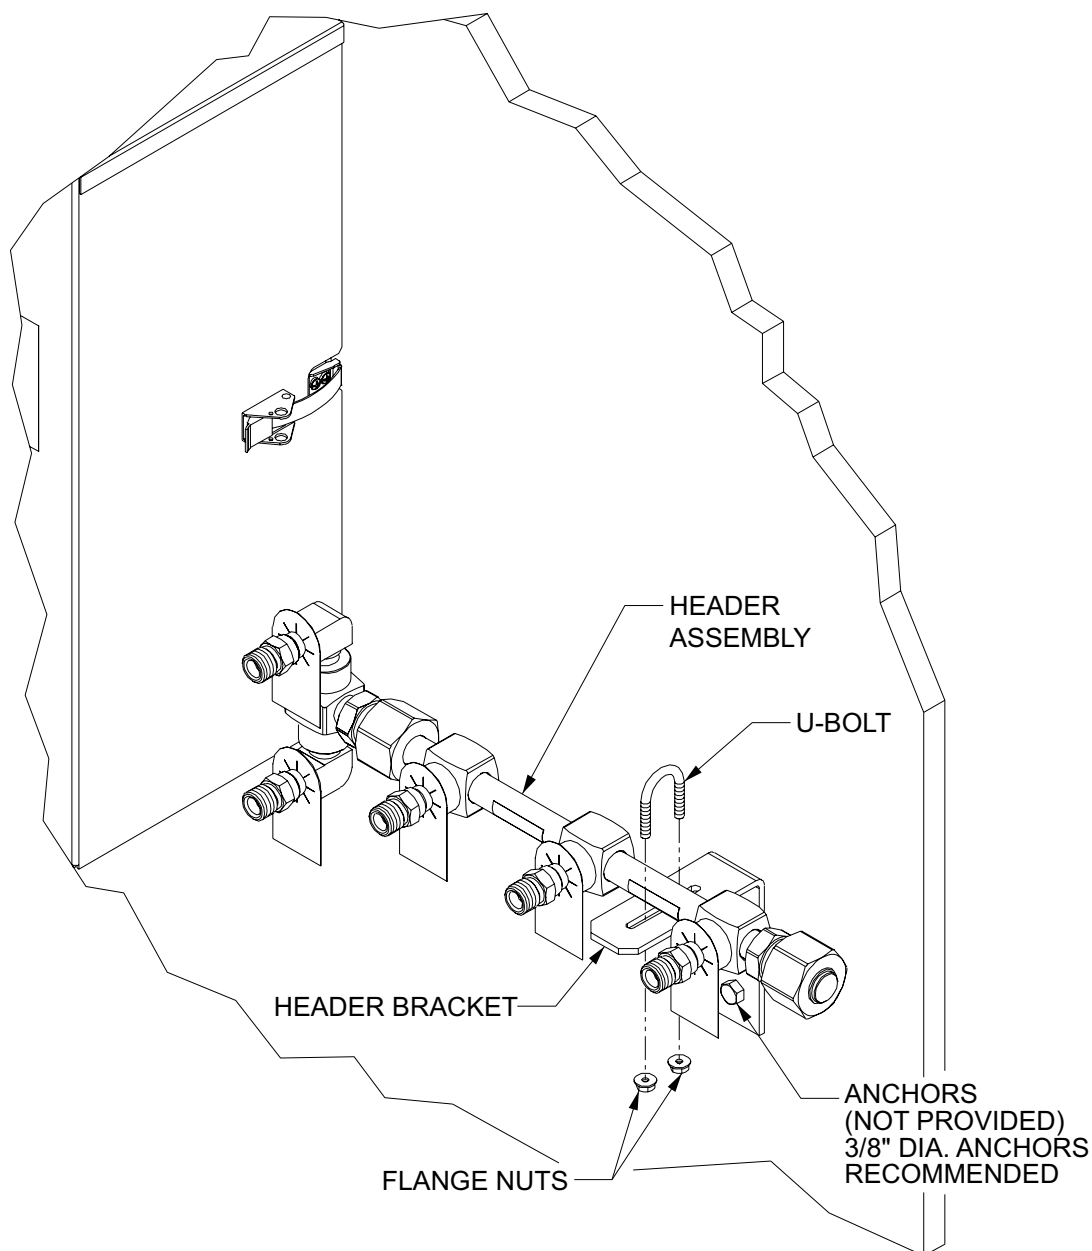
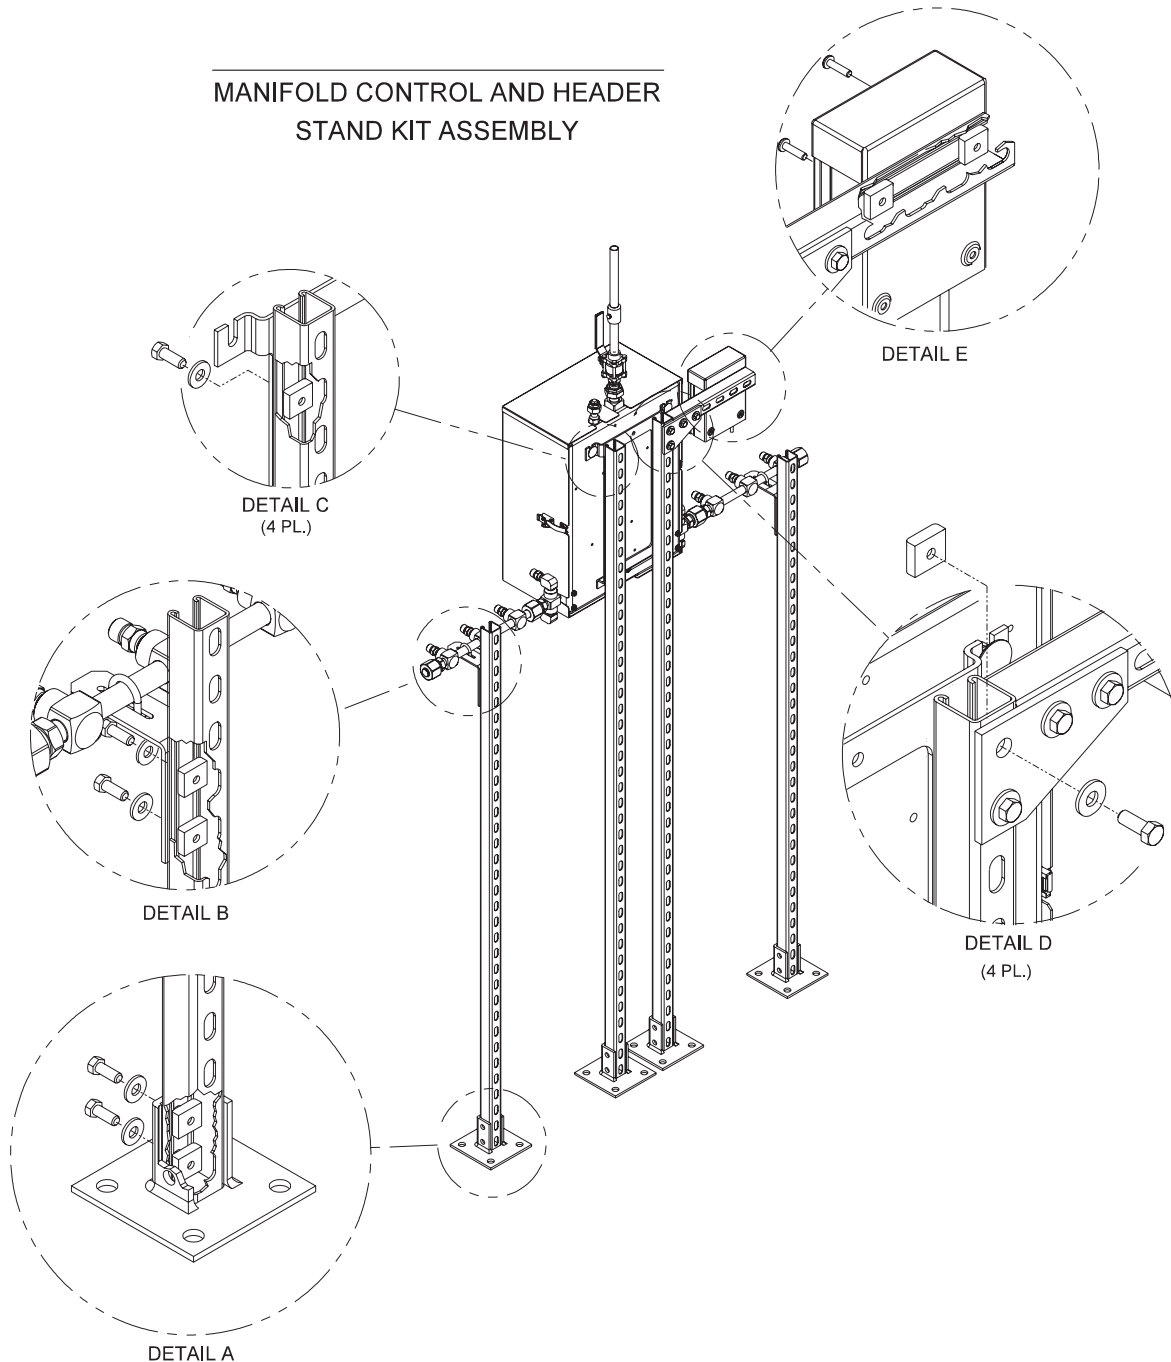

Figure 6
Figure 9
8. Each header extension is shipped with a header bracket. Position bracket against wall and on bottom side of header as shown in Figure 6. Attach bracket to wall using appropriate anchors (by others). 3/8" diameter anchors are recommended.
4. Attach post base to one end of each 80-inch channel as shown in Figure 9, Detail A. Use two each 3/8" bolts, flat washers and channel nuts per base. Tighten all four bolts.
5. Stand each channel / base side by side. Attach manifold mounting bracket to both bases as shown in Figure 9, Detail C. Use four each 3/8" bolts, flat washers and channel nuts per base. Top of bracket should be level and positioned 79 3/4" above floor. Tighten all four bolts.
8. Attach 12-inch channel to top of one vertical channel as shown in Figure 9, Detail D. 12-inch channel is used to mount power supply and may be located on either side of manifold
control panel. Use flat plate, four each 3/8" bolts, flat washers and channel nuts. Unlike other hardware shown in Figure 9, 3/8 bolts will pass through elongated holes in back of channel and will be secured with channel nuts inside. Tighten all four bolts.
11. Each header extension is shipped with a header bracket. Each header bracket should be attached to a manifold header stand. Assemble each header stand by attaching a post base to one end of 66-inch channel as shown in Figure 9, Detail A.
12. Set header stand in a vertical position roughly in alignment with two vertical control panel stands. Position header bracket against channel and on bottom side of header as shown in Figure 6. Attach bracket to channel as shown in Figure 9, Detail B. Use two each 3/8" bolts, flat washers and channel nuts. Tighten all bolts.
15. Assemble u-bolt and bracket hardware as shown in Figure 6. Tighten u-bolt nuts.
If floor mounting manifold control panel, mount power supply assembly to 12-inch channel as shown in Figure 9, Detail E. Use two each 1/4" bolts and channel nuts per base. Tighten all bolts.